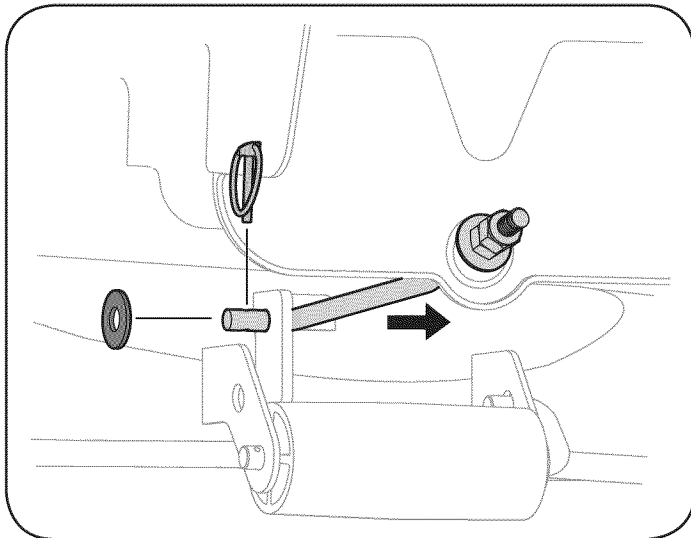

Figure 13
9. Remove the cotter pin from the end of the stabilizer rod and slide the stabilizer out of the hanger bracket on the deck. See Figure 13.
- With the deck beneath the mower frame, attach the stabilizer rod. See Figure 13.